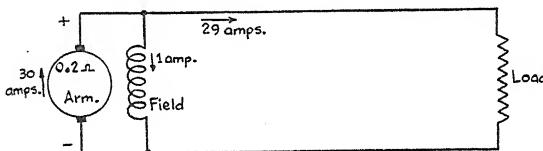

FIG. 77. Terminal voltage is always lower than generated e.m.f.
Suppose, for example, a certain generator armature actually generates 150 volts. Now suppose the armature resistance of this machine is 0.2 ohm, and the machine is delivering 30 amperes from its armature. These facts are shown in Figure 77.
2. **Self-excited** generators — where the fields always are electromagnets, "fed" from the armature of the generator itself, as shown in Figure 77. This generator is made in two common types:
a) **Shunt** (or parallel), where the fields are connected in parallel with the armature (Fig. 77).